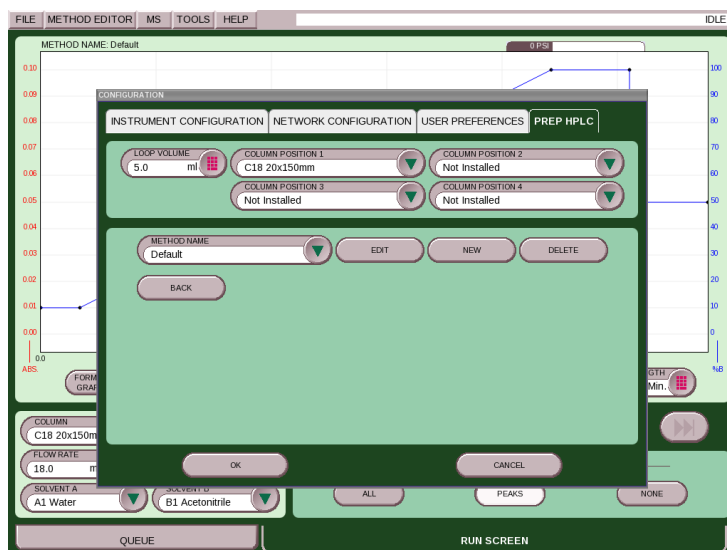

Figure 3-3 Define Methods screen
2. Press the DEFINE METHODS button (Figure 3-3).